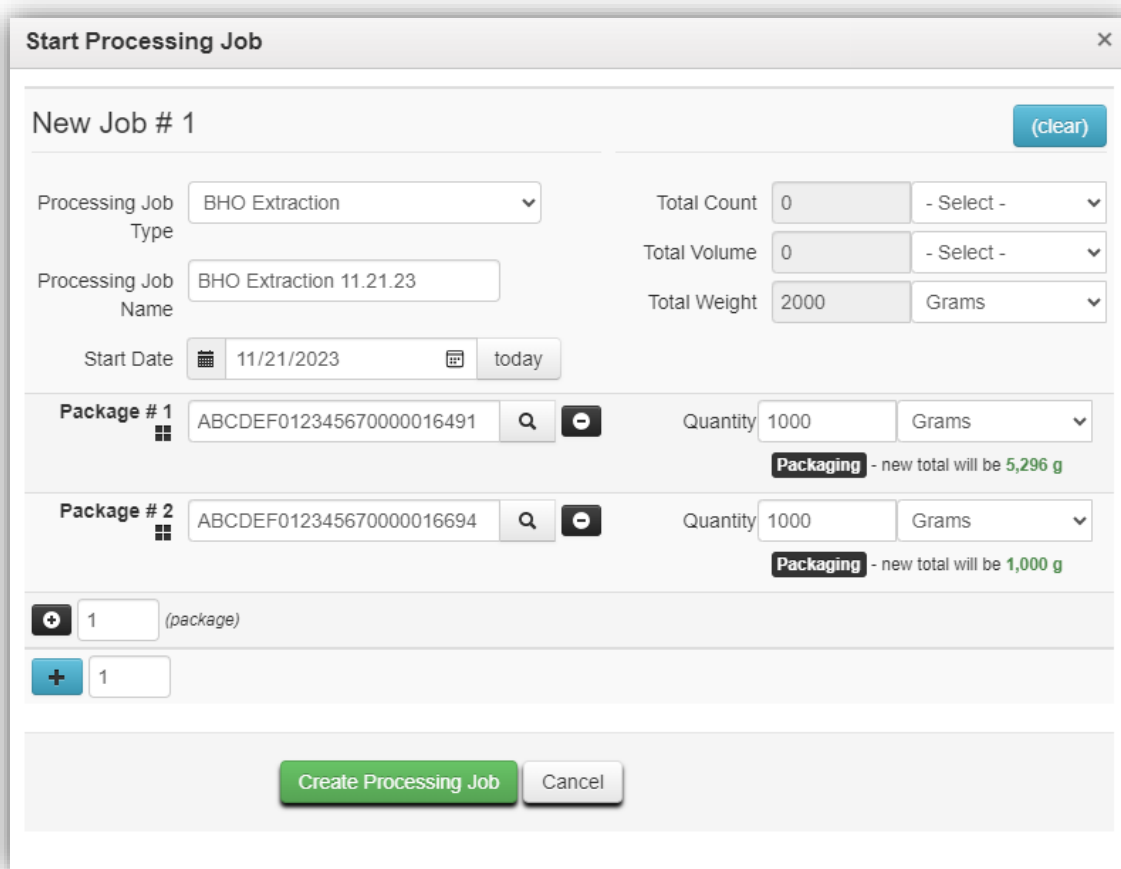

Figure 10: Start Processing Job action window
- Enter the required information in the action window – **see Figure 10.**